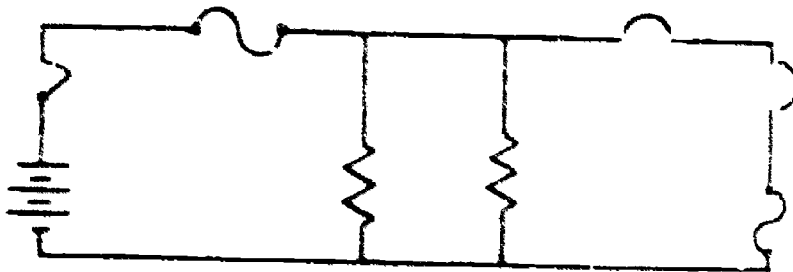

Figure 4
Refer to Figure 4 above and place an "X" beside each True statement listed below:
2.4 Write the missing items in the following statements: (Refer to Figure 4 if necessary)